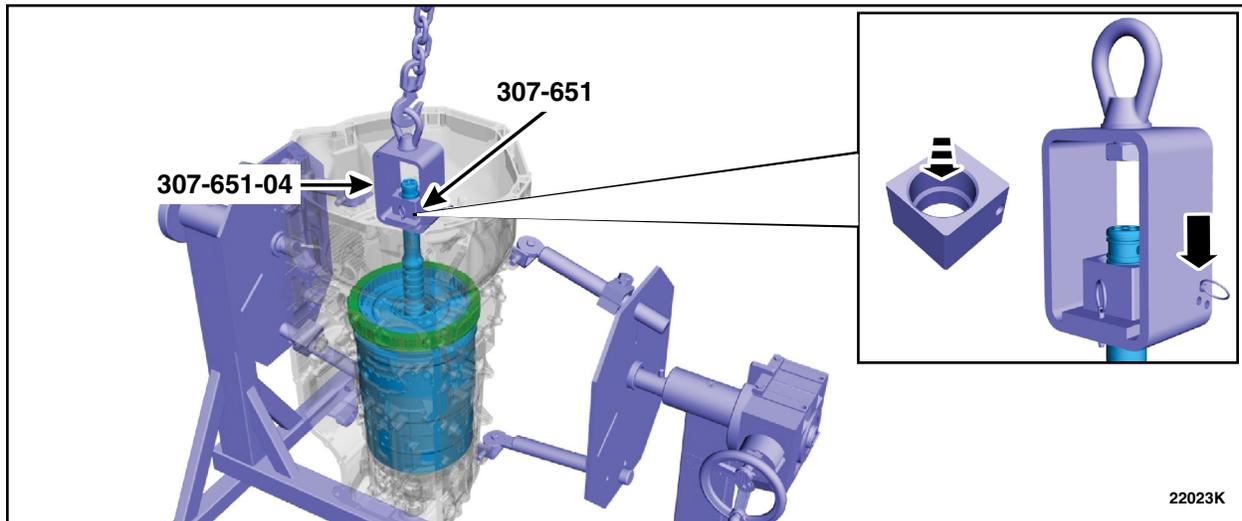

FIGURE 18
21. Using the Special Service Tool: 307-651 Bracket, Pump Remove/Installer. , 307-651-04 Adapter, Lift Fixture and a floor crane, remove the clutch and planetary assembly. See Figure 18